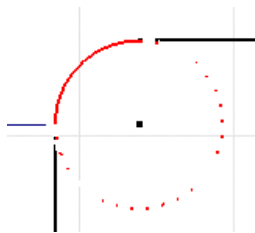

Figure 2.4.12: Trimming
14. Now find the **Trim** command in the Panel Toolbar. Select this and trim each circle. Note: you will receive an error message if you dimension the circle before you trim it. While trimming, it should look like Figure 2.4.12. After trimming the sketch should appear like 2.4.13.